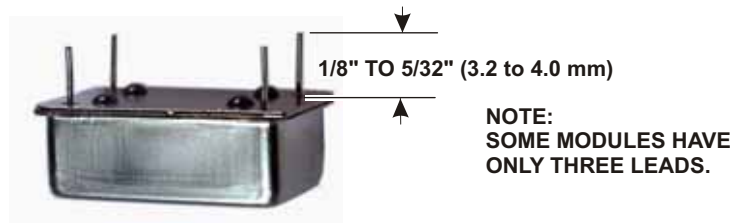

Figure 56. Preparing TCXO Module Leads.
- Check to ensure the KREF3 KTCXO module lead lengths are as shown in Figure 56. If longer than shown, use your diagonal cutters to trim them to length. The objective is to cut the leads only as necessary for the module to fully seat in the socket in the next step.